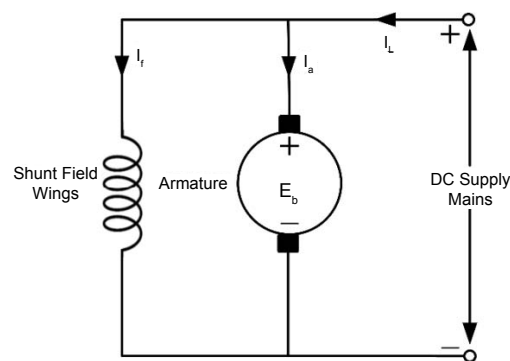

Fig. 6.9: DC shunt motor
- ii. **DC shunt motor:** A shunt motor is one in which the field winding consisting of large number of turns of comparatively thin wire is connected in parallel with armature as shown in Fig. 6.9. In the case of shunt motor, the field current is constant because of the DC supply is constant. Therefore, flux remains practically constant.